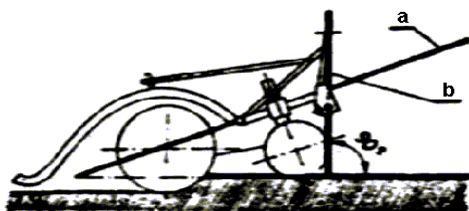

Fig. 8. Soil miller in use
- level precisely the soil miller (fig. 8).